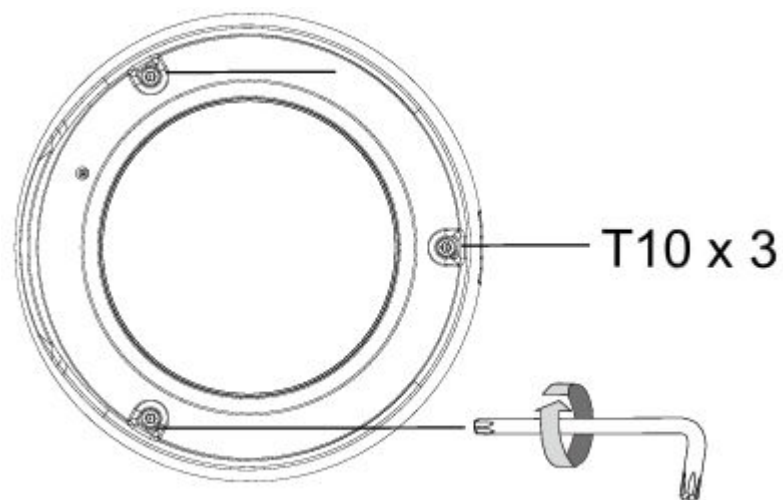

Figure 1-7
**Step 7** Replace the dome cover after adjusting the camera angle. See Figure 1-7.